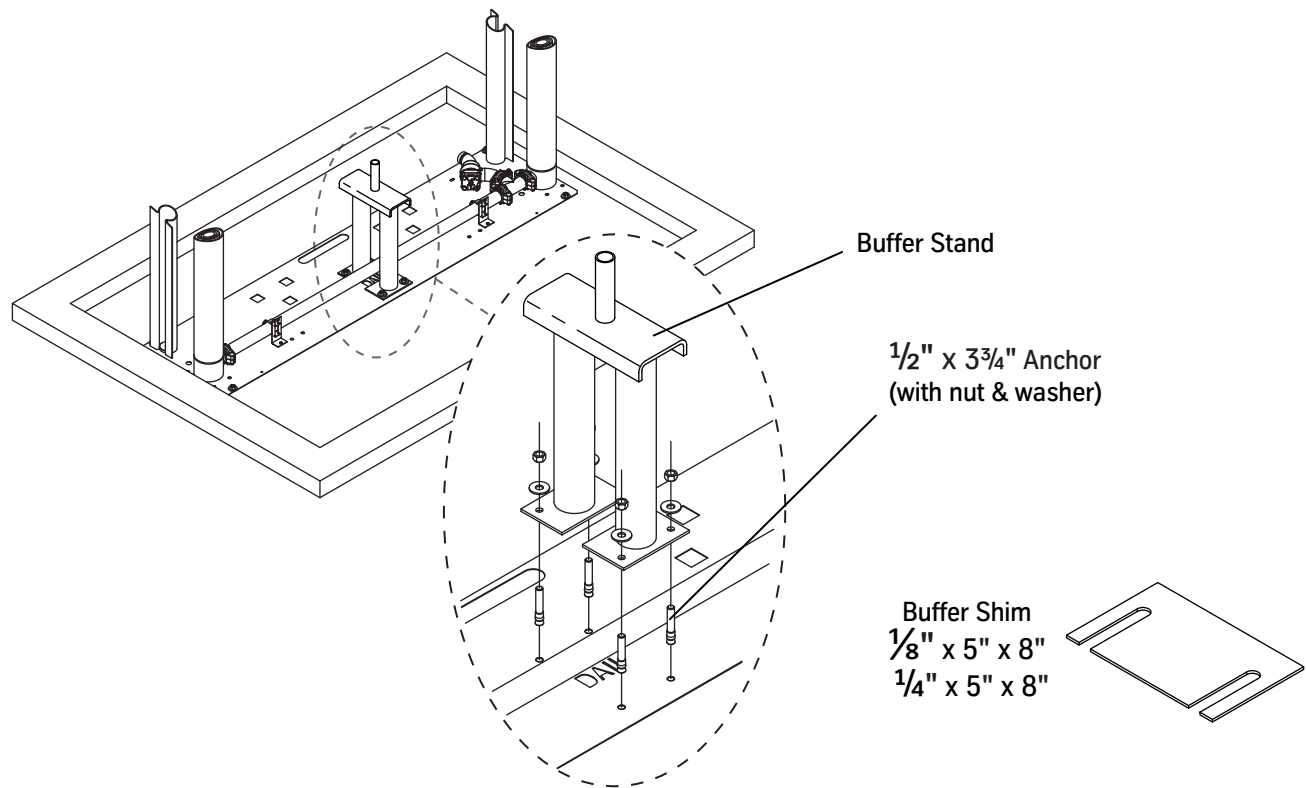

Figure 32 - Buffer Stand Installation
1. Place the buffer stand on the pit template. See Figure 32.